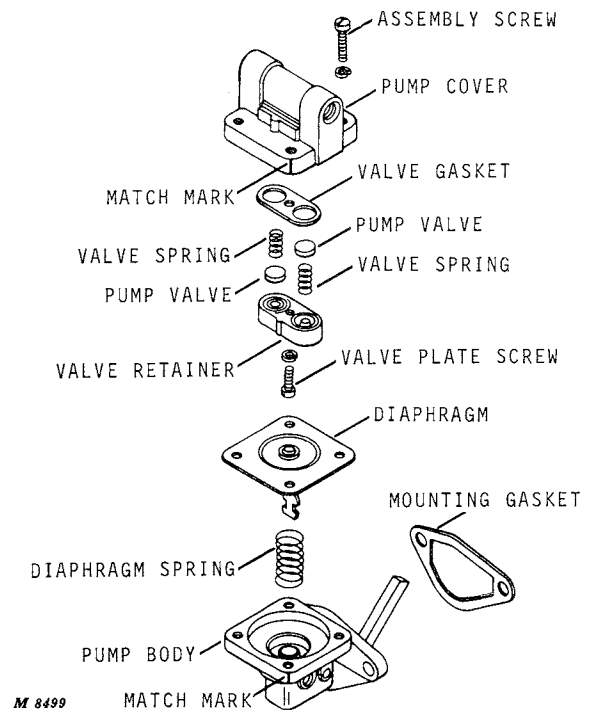

Fig. 2-Exploded View of Fuel Pump
Remove valve retainer, valves, valve springs and valve gasket, noting their positions. Discard valve springs, valves and valve gasket. See Figure 2.
**NOTE:** Valve springs and valves are in opposite relationship to each other. See Figure 2.